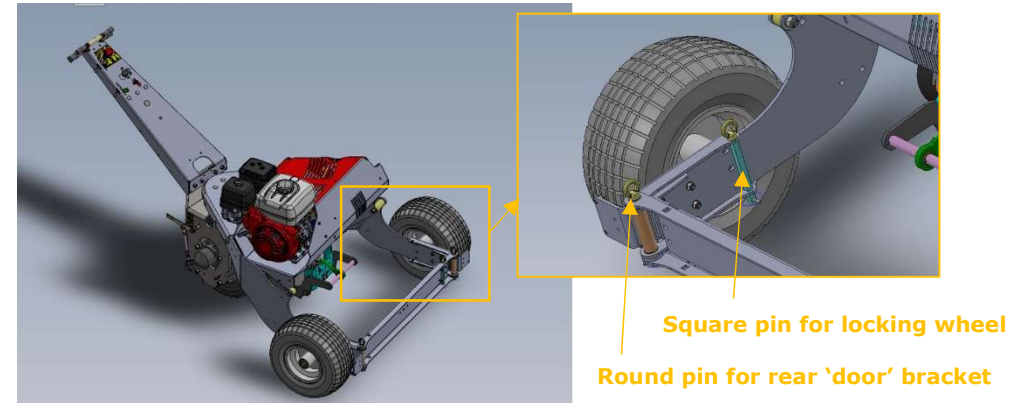

Figure 3: Rear wheel and rear 'door' bracket locking pins.
5.2.2 Place the rear wheels in the position beside the STrac as shown in the image below. To do this the square pin needs to be pulled out. Next the wheels can be put in the position besides the machine and re-locked in place by the square pin see figure 3 below.